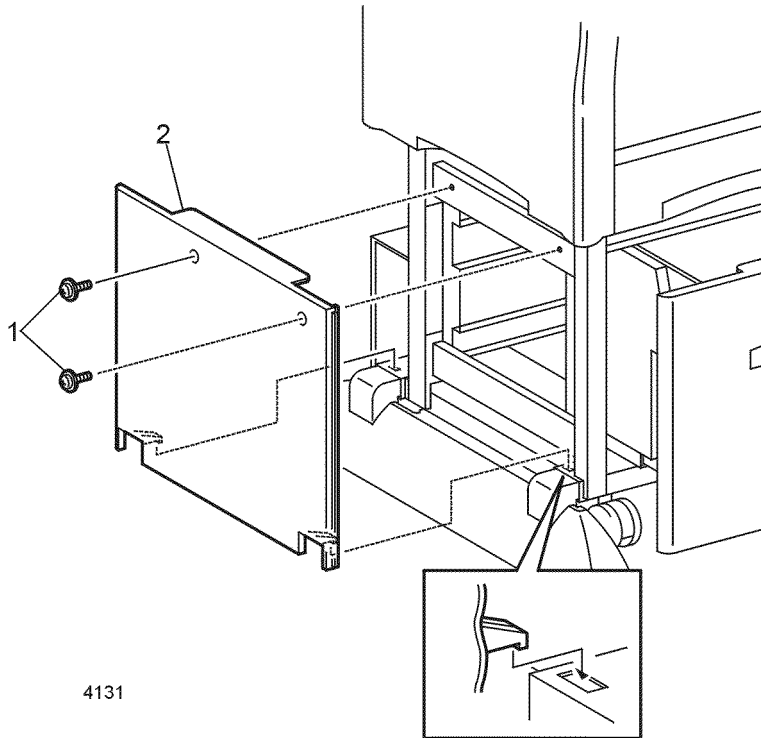

Figure 1 Left Side Cover
2. Pull the top of the cover out and up to remove (Figure 1).